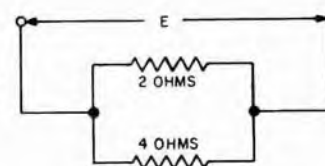

Fig. 16. Resistors in parallel are added algebraically—the result will always be a value less than that of the lowest in the circuit.
**Resistance in Parallel.** Resistances may also be connected in parallel in a circuit as in Fig. 16. In this case the current flowing in the circuit will divide between the resistances, the greater current flowing through the lowest resistance. Also, the total resistance in the circuit will always be less than the smallest resistance since the total current is greater than the current in any of the individual resistors. The formula for determining the combined resistance of two parallel resistors is:
Thus, in Fig. 16 the effective resistance of  $R_1$  and  $R_2$  is: